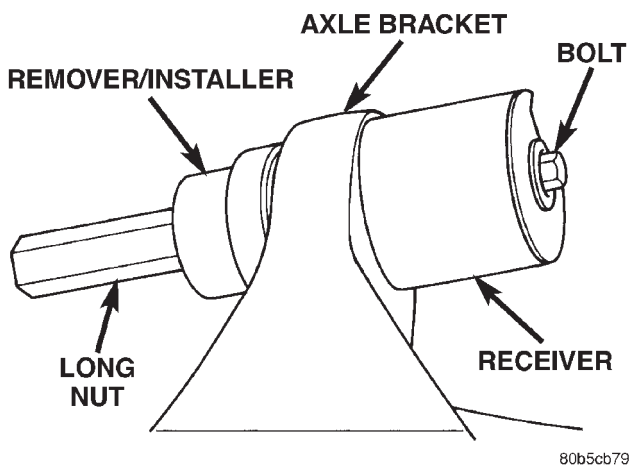

Fig. 5 Bushing Installation
(1) Place Receiver 7932-1 on the other side of the axle bracket.
(2) Position new bushing up to the axle bracket, and large end of Remover/Install 7932-2 against the bushing (Fig. 5).
(3) Install bolt 7604 through receiver, bushing and installer.
(4) Install Long Nut 7603 and tighten nut to draw the bushing into the axle bracket.